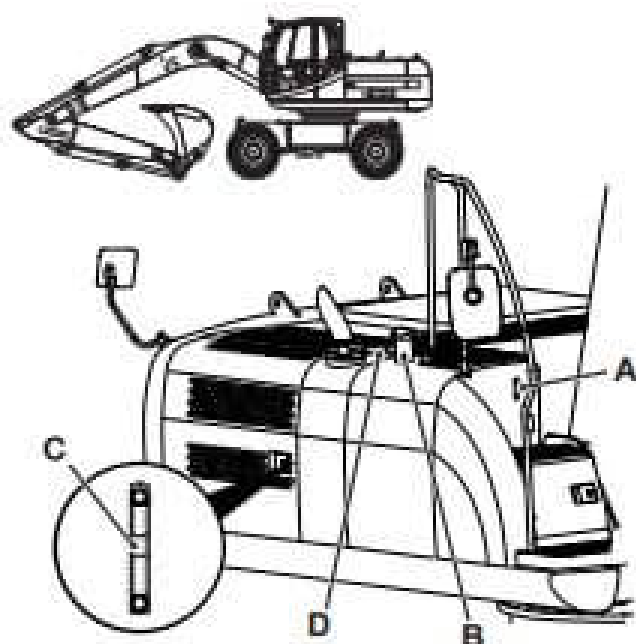

Fig 7.
- a Follow steps 1-3 of the daily checking procedure leaving the boom, dipper and bucket positioned Fig 7. (D 3-32).